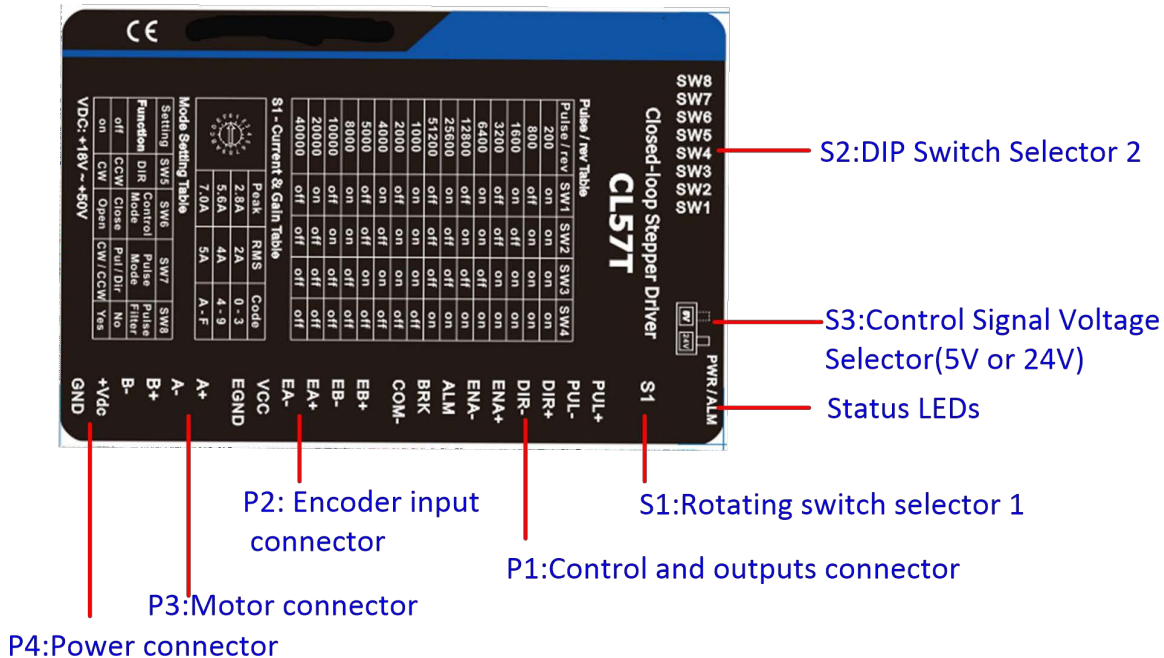

Figure 2: CL57T(V4.0) connectors
A CL57T(V4.0) closed loop stepper drive has 4 connection blocks from P1 to P4 (see figure 2).
The P1 connector in Figure 2 contains connections for control signals and 2 digital output.
(5) DIR signal requires advance PUL signal minimum 2 μ s in single pulse mode
(6) The factory setting of control signal voltage is 24V, must need to set S3 (figure 2) if it is 5V
The P2 connector in Figure 2 is for encoder signals connection. Refer to the following table for details.
The 8-bit is located on the side (DIP switch S2 in Figure 2) and used to configure settings of micro step resolution, output current, and motor standstill current as shown below